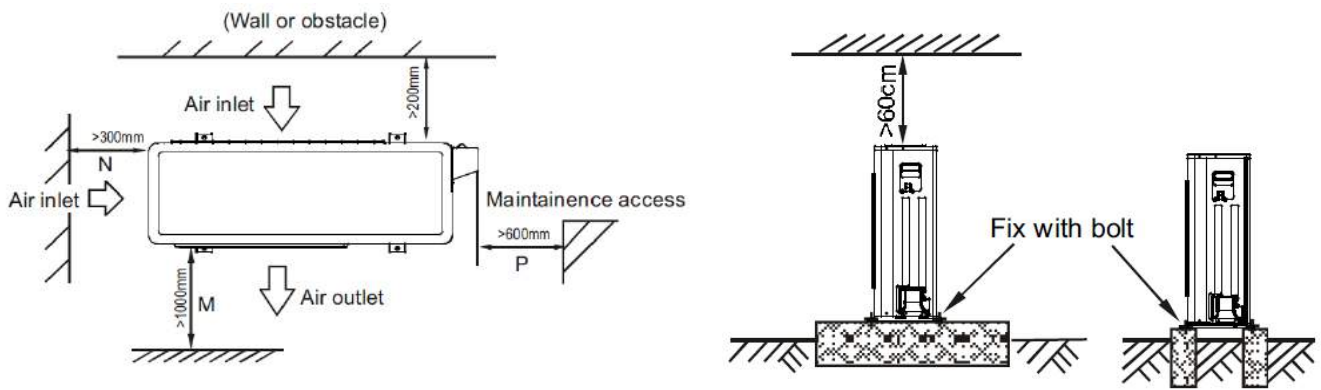

Fig. 16 – Outdoor Unit Clearances
- Ensure minimum clearances, as outlined in the Outdoor Unit Clearances drawing, Fig. 16 (Section 5.5), are maintained